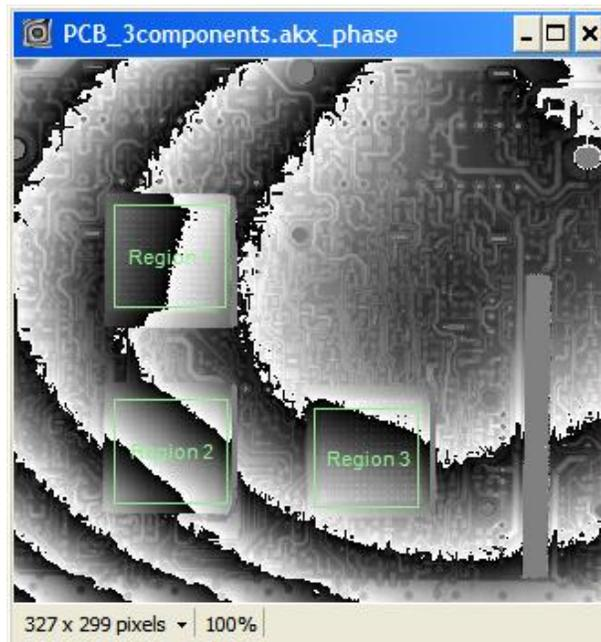

Figure 3.27 Multiple Domains on One Phase Image
5. Additional domains can be added to the partition (**Figure 3.27**) by repeating steps 1 through 3. Domains may overlap.